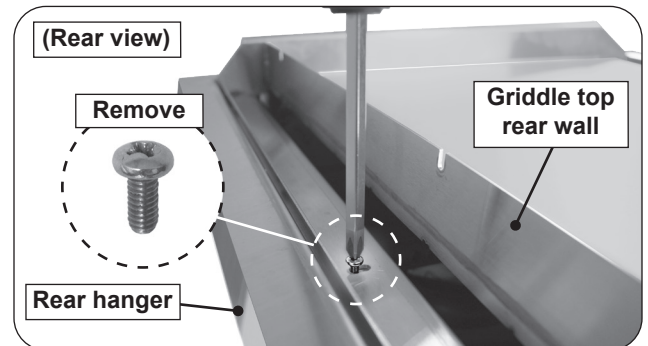

Fig. 40-2 Rear screw removal
3. Locate the screw found on rear of the griddle top and remove (see Fig. 40-2).